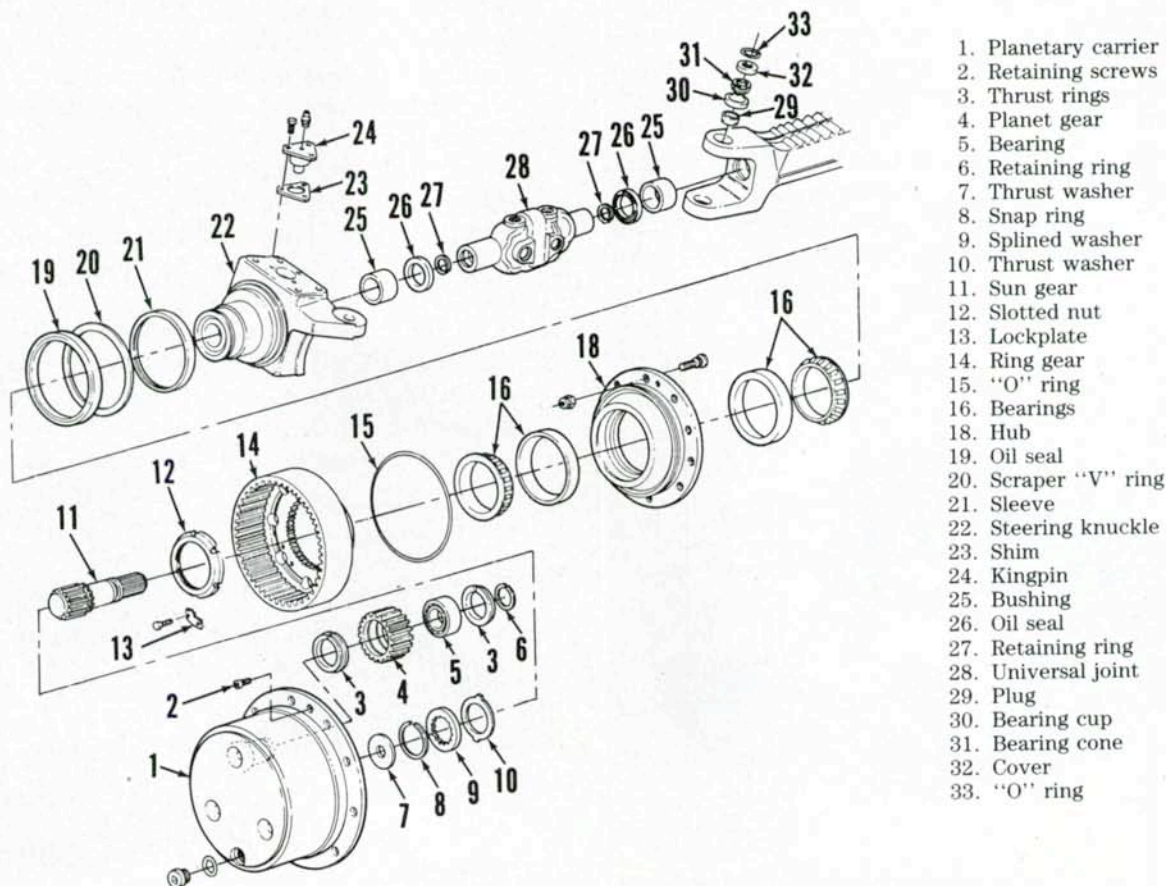
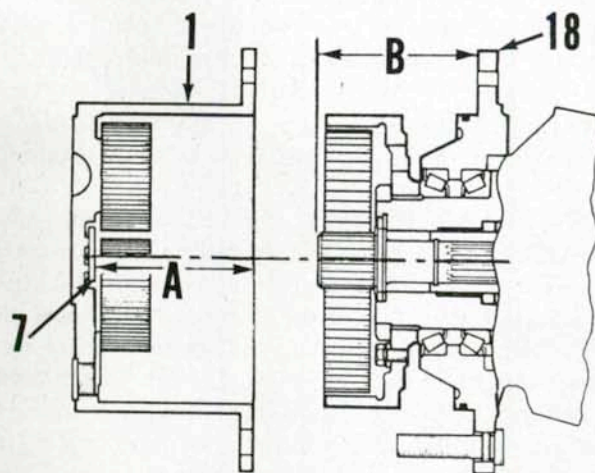
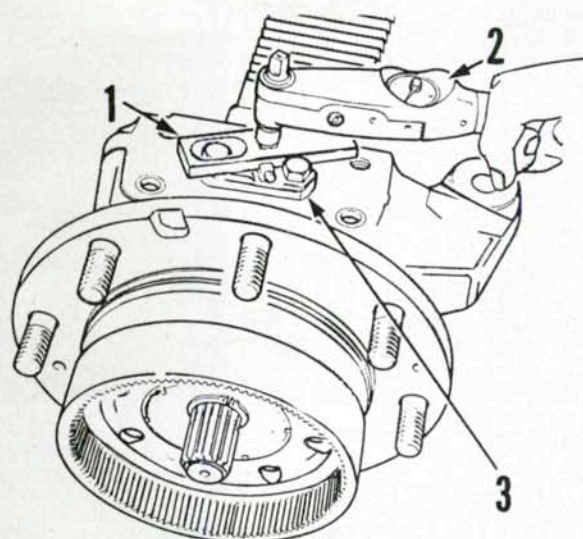

Fig. 32—Exploded view of hub and planetary final drive assembly used on APL-365 type front drive axle.
Fig. 34—Thrust washer (7) controls axle shaft end play. To adjust, measure dimensions "A" and "B" and refer to text.
Fig. 35—Use adapter (1) and a torque wrench (2) to measure torque required to swivel steering knuckle. Refer to text for adjustment of kingpin bearing preload.
To remove wheel hub and planetary assembly from either side, first raise and support front axle and remove wheel and tire. Remove drain plug from planetary carrier (1—Fig. 32) and drain oil. Remove the two socket-head retaining screws (2), then insert pry bars into slots in hub and pry planetary carrier from hub. Remove snap rings (6) and withdraw planetary gears (4), bearings (5) and thrust washers (3) from carrier.
Adjust hub bearing preload as follows: Wrap a cord around hub as shown in Fig. 33 and use a spring scale to measure rolling resistance of hub bearings and oil seal. Then, tighten the slotted nut (12) in small increments until pull required to rotate hub is 8-15 pounds (3.6-6.8 Kg) greater than initial (no preload) spring scale reading. Install lockplate (13—Fig. 32) to secure slotted nut.
The thrust washer (10—Fig. 32) located in center of planetary carrier controls axle shaft end play. To determine correct thickness of washer to provide specified axle shaft end play of 0.012-0.024 inch (0.30-0.60 mm), proceed as follows: Place original thrust washer in carrier, then use a straightedge and depth micrometer to measure distance (A—Fig. 34) from mounting surface of carrier to face of thrust washer. Push sun gear and axle shaft fully inward, then measure distance (B) from end of sun gear to mounting surface of hub. Subtract dimension (B) from dimension (A) to calculate axle shaft end play. If end play is not within specified range, install a thicker or thinner thrust washer as necessary to obtain correct end play.
Assemble thrust washers (3—Fig. 32), planet gears (4) and bearings (5) in carrier. Be sure gears are positioned so side with chamfered inner bore is facing carrier housing. Install planetary carrier and refill hub with Ford M2C134-C or equivalent oil.
To remove steering knuckle (22—Fig. 32), first remove planetary carrier (1) as outlined in paragraph 23. Note that it is not necessary to remove planetary ring gear (14) and wheel hub (18) unless renewal of steering knuckle is required. Remove snap ring (8), splined washer (9) and thrust washer (10) from sun gear. Disconnect steering rod ball joint end from steering knuckle. Support steering knuckle and hub, remove upper and lower kingpins (24), bearing cones (31) and shims (23), then slide steering knuckle from axle housing.
Install special torque wrench adapter tool (No. 0566), or similar tool, onto upper kingpin so a torque wrench can be attached over center of kingpin as shown in Fig. 35. Measure the torque required to swivel the steering knuckle, which should be 13-15 ft.-lbs. (18-20 N·m). Increasing thickness of shims (23—Fig. 32) will decrease turning torque, or decreasing thickness of shims will increase turning torque. Shims should be installed under the upper kingpin only.